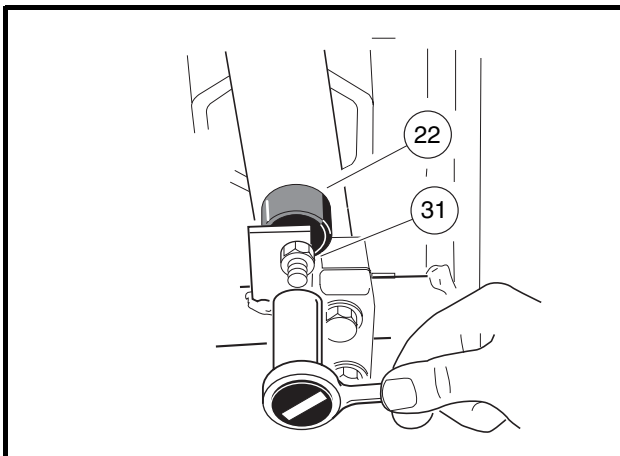
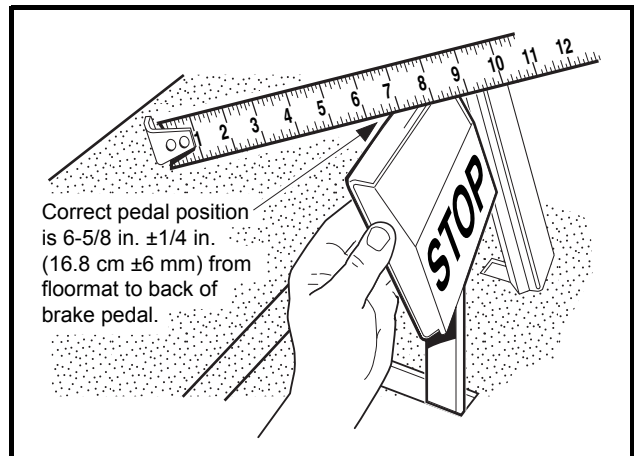

Figure 5-4 Adjust Brake Pedal Height
Figure 5-5 Measure Brake Pedal Height
3. Loosen, but do not remove, the brake stop jam nut (31) (**Figure 5-4, Page 5-3**).
4. Pull the brake pedal toward the rear of the vehicle until the brake stop bumper will not allow the pedal to travel any further (**Figure 5-5, Page 5-3**).
6. Adjust the brake stop bumper (22) up to increase the distance between the pedal and the floorboard. or down to increase (Figure 5-4, Page 5-3). Proper brake pedal height is 6-5/8 inches \pm 1/4 inch (16.8 cm \pm 6 mm) (Figure 5-5, Page 5-3).
7. Tighten the jam nut (31) to 8 ft-lb (9.5 N-m) (Figure 5-4, Page 5-3).